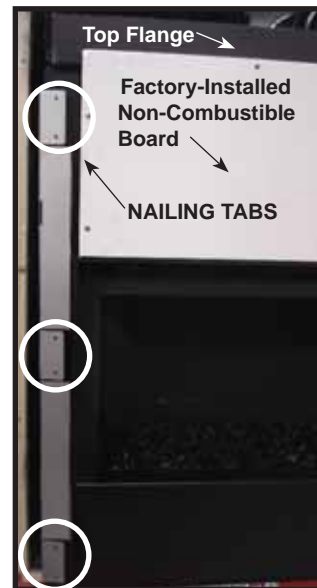
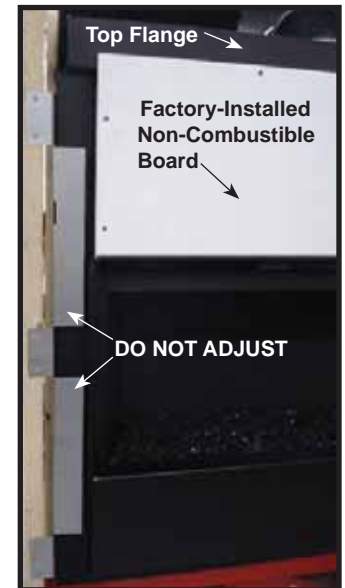

Figure 13.1 Nailing Tabs Shipping Position
Figure 13.2 Nailing Tabs Installation Position
1. Bend three nailing tabs away from fireplace 180 degrees on both left and right nailing tabs. Do not adjust the column standoffs. See Figure 13.1 and Figure 13.2.